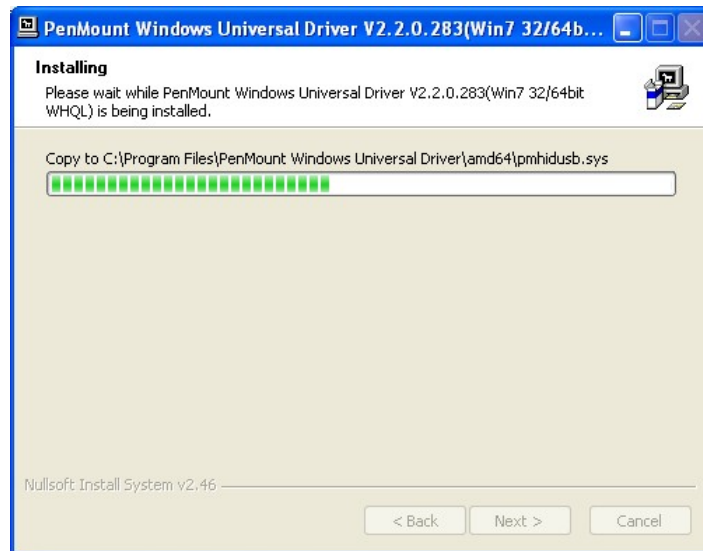

Figure 7-5: Installation Starts
Step 9: The installation of the program begins. See **Figure 7-5**.